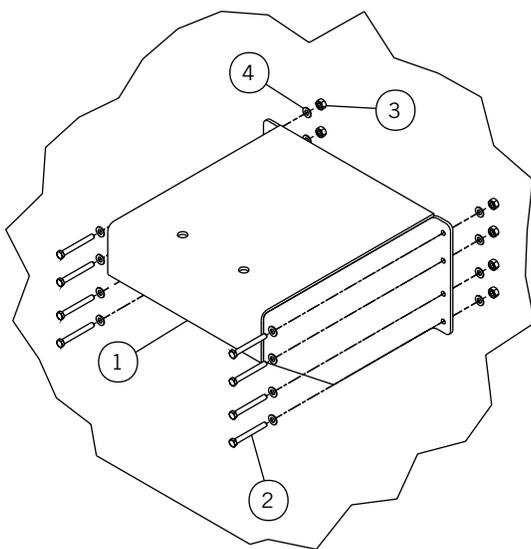

Figure 26-3
- 2) **Figure 26-3.** Use supplied hardware to mount the mounting bracket to the trailer.